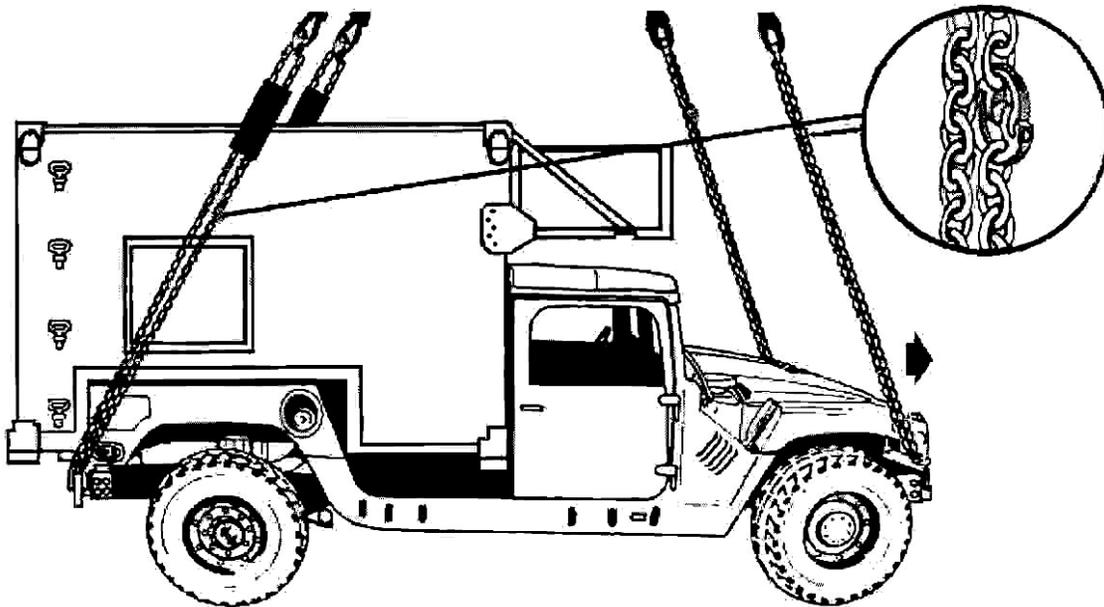

Figure 3-115
12. Check the rigging to ensure it will not become entangled with the load (see Figure 3-115).